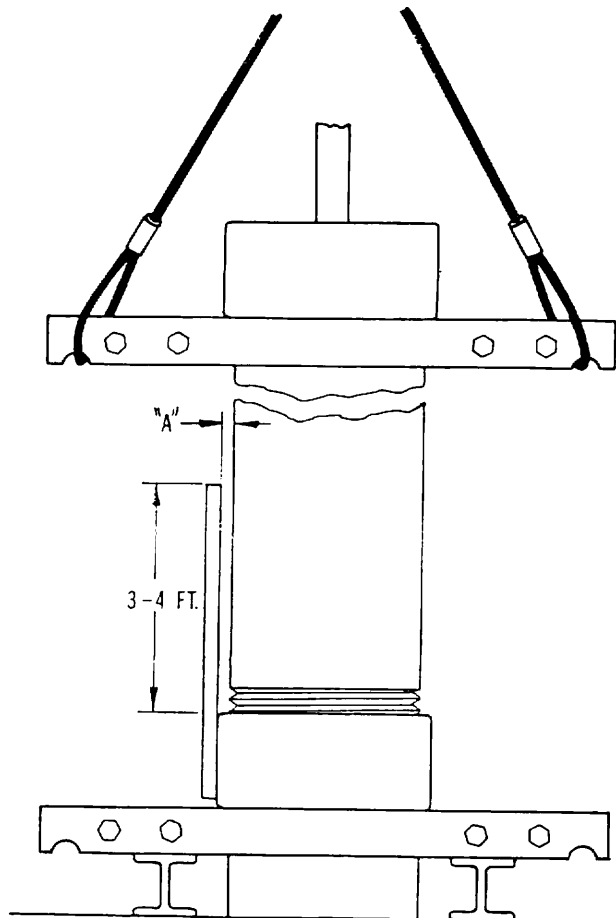

FIG. 15 - ALIGNMENT OF PIPE AND COUPLING FOR LB TYPE COLUMN
- e. Align the coupling and pipe threads using a straight edge about 3 to 4 feet long. Lay the straight edge vertically against the coupling O.D. See Fig. 15. Align the pipe so that the distance between the pipe and the straight edge is equal along the full length of the straight edge in two positions 90° apart (i.e. until the pipe is parallel to the straight edge).